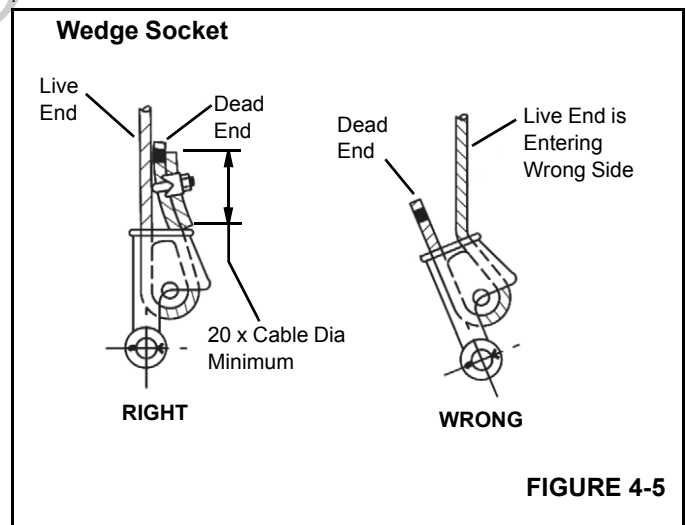

FIGURE 4-5
3. Make sure the live-end (Figure 4-5) of the rope is directly in line with the ears of the socket and the direction of pull to which the rope will be subjected. If the rope is loaded into the socket incorrectly, under a load the rope will bend as it leaves the socket, and the edge of the socket will wear into the rope causing damage to the rope and eventual failure.
socket allowing the dead-end (Figure 4-5) to protrude from the socket. Ensure the dead-end of the rope is of sufficient length to apply end treatment to the dead-end after the wedge has been seated.